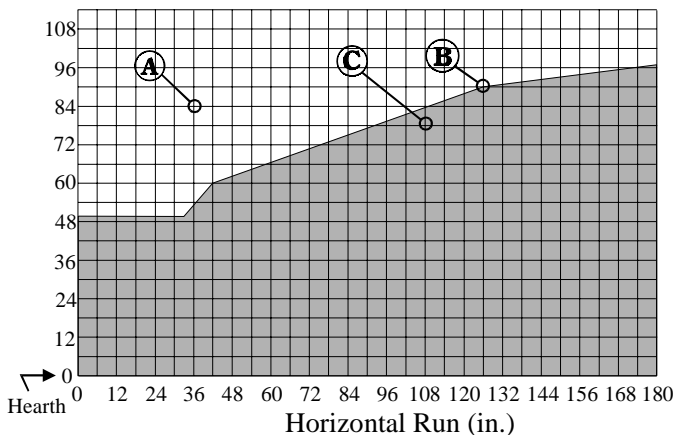

Figure 18a. C34-DV Rear Vent Venting Graph
- your vent run must fall within the limits set by Figure 18a
Measure the vertical height from the fireplace hearth to the centre of the termination and the horizontal run from the fireplace flue collar to the wall flange of the termination. Plot on the Venting Graph (Fig. 18a) with an 'X'.
- Venting runs *must* fall within the limits set by the venting graph (see Figure 18a).